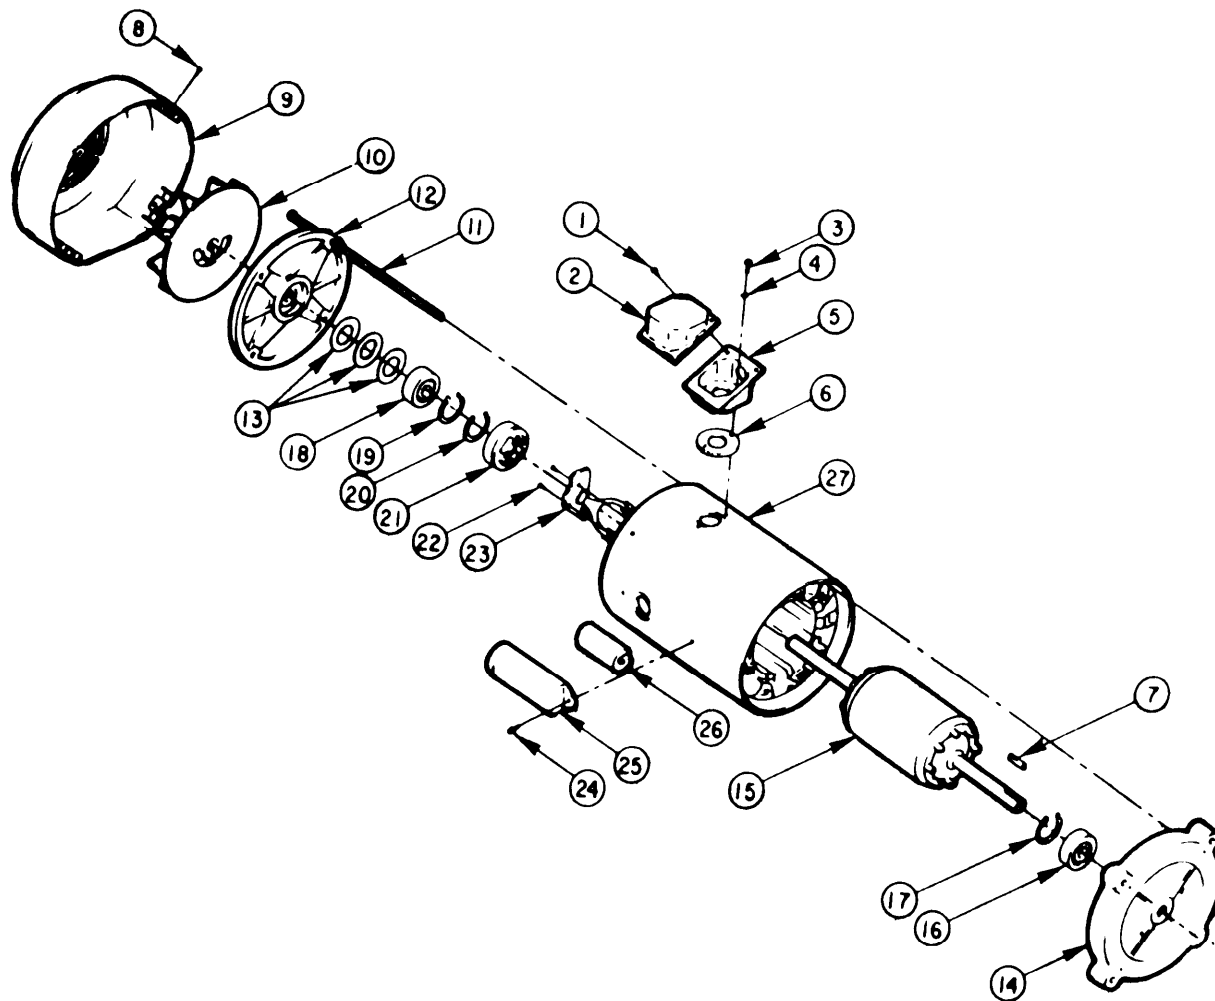

Figure 3-9. Chemical Feed Pump Motor Assembly (Army)
b. Motor Disassembly. (Figure 3-9) (ARMY)
(1) If necessary to disassemble motor, refer to paragraph 2-48 to remove motor from chemical feed pump.